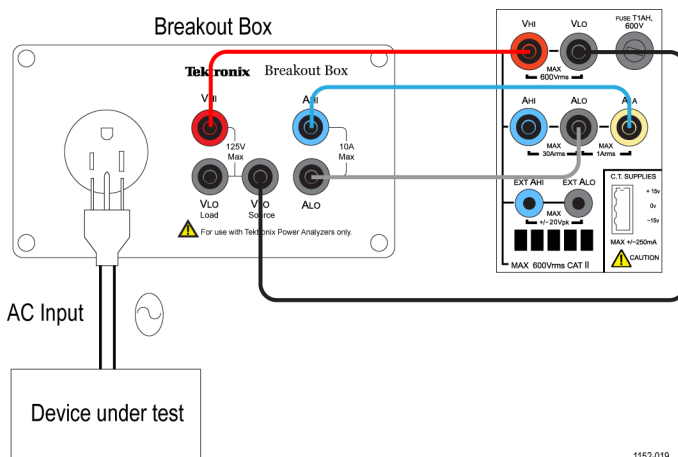

Figure 54: Standby power measurements wiring diagram
- Connect the DUT using a Tekronix Breakout Box (BB1000) as shown in the wiring diagram. (See Figure 54.)